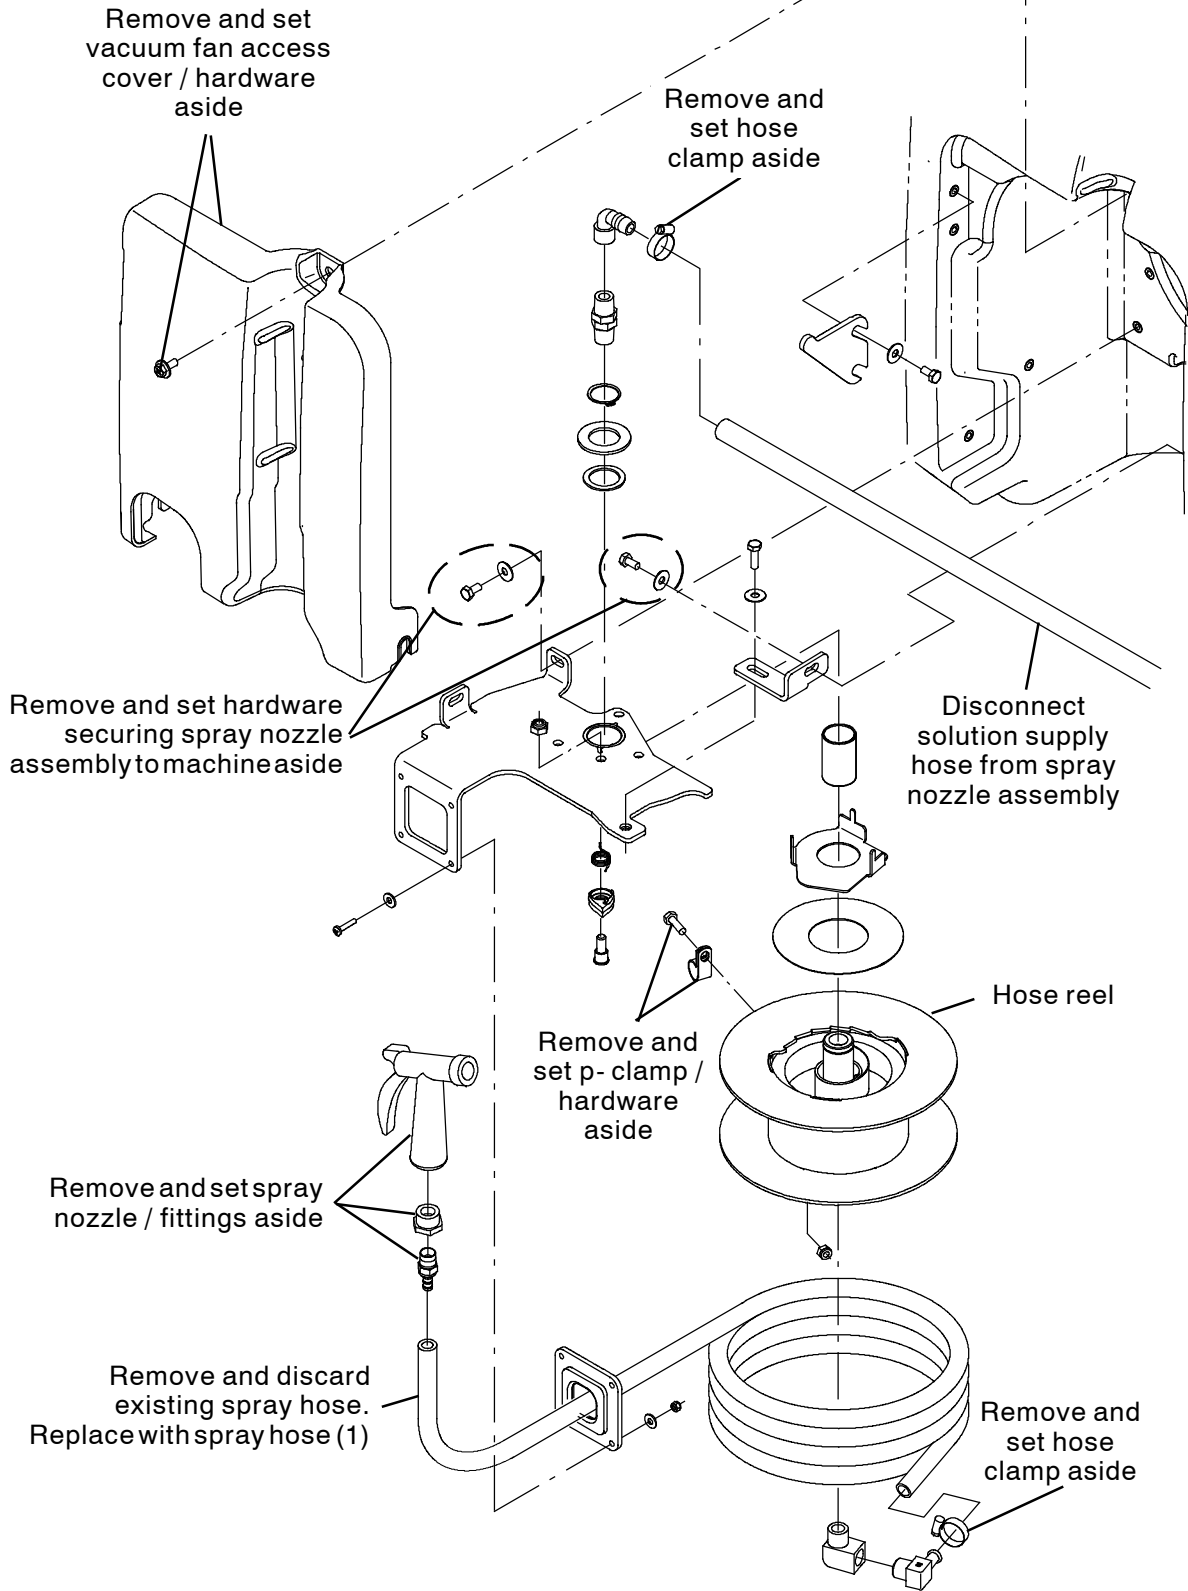

FIG. 1
3. Remove the vacuum fan access cover from the machine. Set the vacuum fan access cover and hardware aside. (Fig. 1)
4. Disconnect the solution supply hose from the spray nozzle assembly. Set the hose clamp aside. (Fig. 1)
5. Remove the spray nozzle assembly from the machine. Set all hardware aside. . (Fig. 1)
6. Remove the spray nozzle and fittings from the hose and allow hose to unwind from the spray nozzle assembly. Set the spray nozzle and both fittings aside. (Fig. 1)
7. Remove the spray hose from the spray nozzle assembly. Set the p- clamp, hose clamp, and hardware aside. Discard the spray hose. (Fig. 1)
1. Connect the spray hose (1) to the spray nozzle assembly. (Fig. 1)
2. Use p- clamp to secure the spray hose (1) to the hose reel. (Fig. 1)
3. Wrap the spray hose (1) evenly onto the hose reel. (Fig. 1)
4. Pull the spray hose (1) out from the spray hose assembly until the reel assembly has turned at least four revolutions, adding tension to the spring. (Fig. 1)
5. Wrap the portion of spray hose (1) pulled from the spray hose assembly back onto the reel. (Fig. 1)
6. Install the spray nozzle and fittings onto the spray hose (1). (Fig. 1)
7. Reinstall the spray hose assembly into the machine. (Fig. 1)
8. Reconnect the solution supply hose to the spray nozzle assembly. (Fig. 1)
9. Reinstall the vacuum fan access cover onto the machine. (Fig. 1)